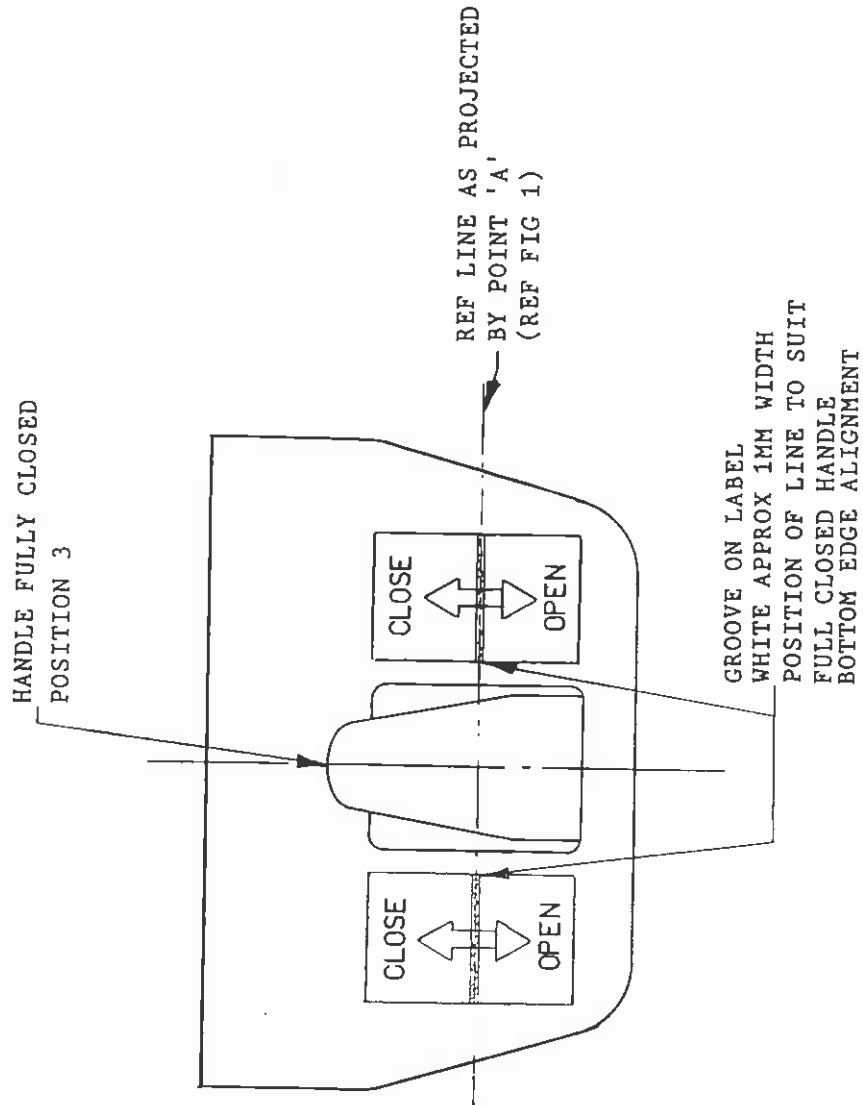

FIG 2
- (vii) When handle is fully closed, it meets requirements of Fig. 1, mark a white line across both labels ref. Fig. 2 on line with handle lower surface (ie coincident with Point 'A' ref Fig. 1 & 2. The line may be obtained by running a hacksaw across both labels; a) deep enough to reveal white of label material or b) if base material is red, deep enough to hold white fill in wax, ie 0.25mm to 0.5mm.